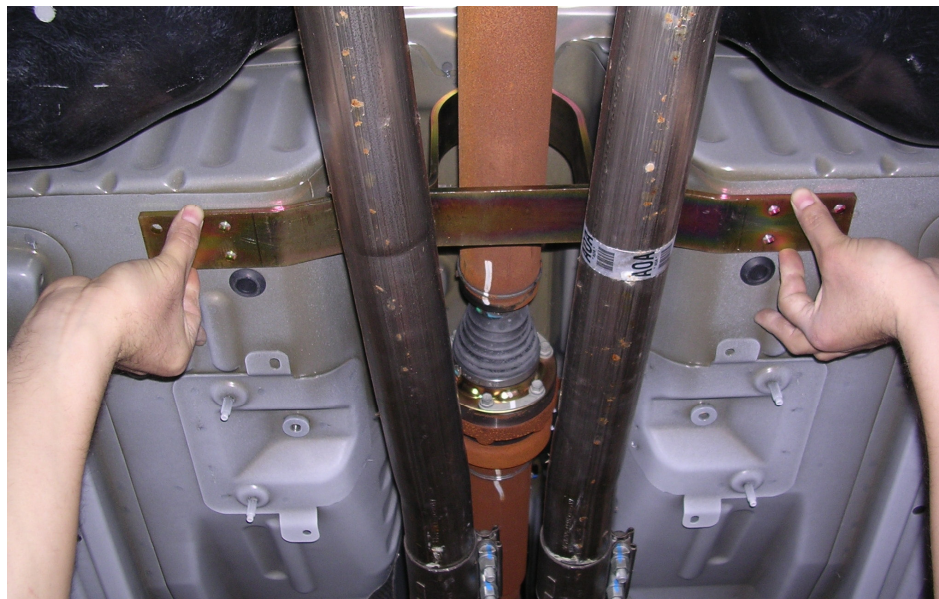

Fig. 2
STEP 7: Position rear drive shaft loop mounting plate (shown in Fig. 2) and mark the mounting holes.